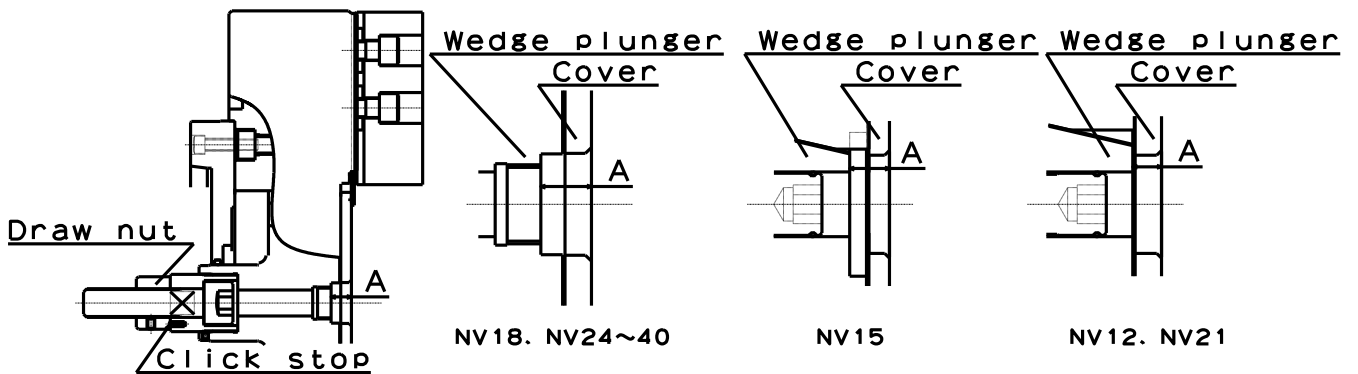

Fig.23
- The appropriate position of the wedge plunger at the cylinder forward end is the position when the dimension A in Fig.23 becomes as shown in the table below. (Distance from surface of cover to the hexagon socket head cap screw plug attaching surface of the wedge plunger in case of NV18 and NV24~40. Distance from surface of cover to surface of the wedge plunger in case of NV12, NV15 and NV21.)